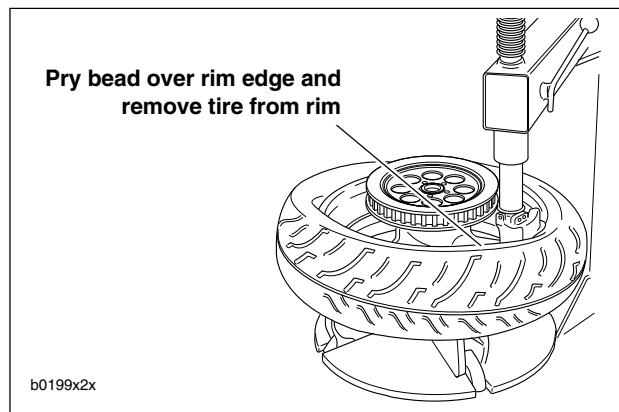

Figure 2-30. Starting Tire Off Rim
5. See Figure 2-30. Push lower bead into rim well on one side and insert tire tool underneath bead from opposite side. Pry bead over rim edge. Remove tire from rim.